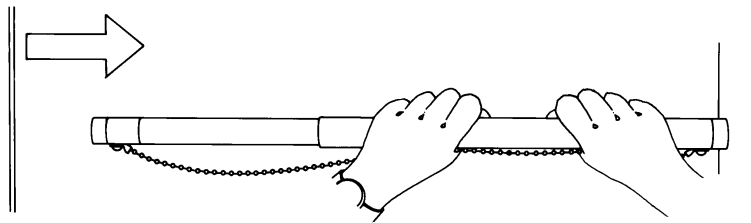

Figure 8 - Safe Operation of the Door Gauge
5. When nudging operation starts, use the force gauge to stall the doors in mid-travel, and note the reading. See Figure 8 for safe operation of the force gauge.